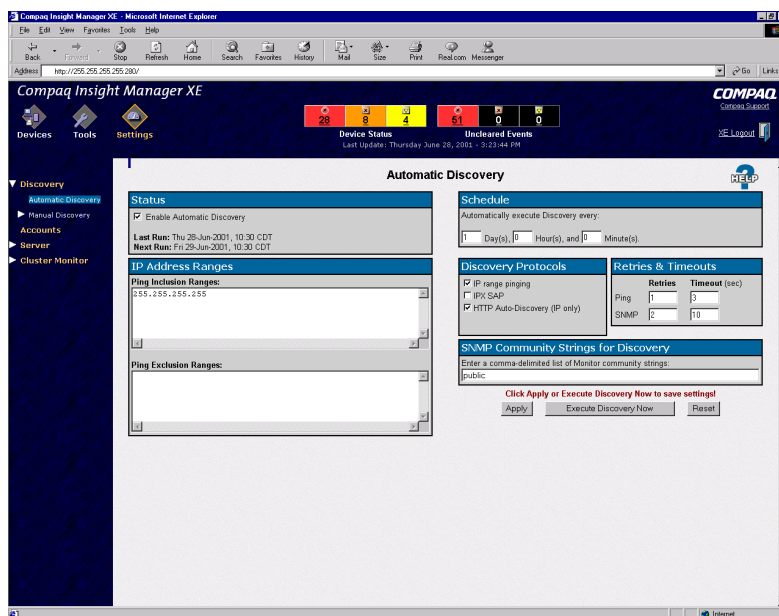

Figure 5-12. Automatic discovery screen
1. Start Compaq Insight Manager XE. Click **Settings**. By default, the Automatic Discovery screen displays, as shown in Figure 5-12. Use this screen to add any management processor IP addresses that will be managed by Compaq Insight Manager XE. If the IP address does not already appear in the **IP Address Ranges** section, enter the IP address.